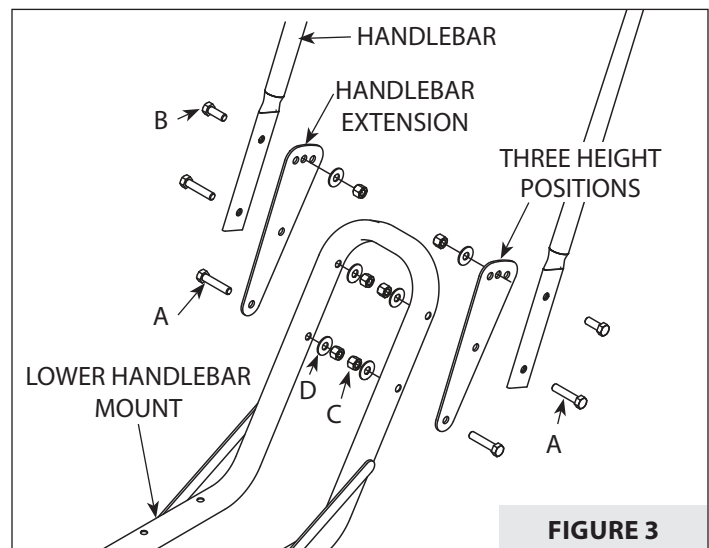

FIGURE 3
6. Locate the handlebar extensions and place them on the outside of the lower handlebar mount. Be sure to line up the handlebar extension pieces with the lower handlebar mount as shown. **SEE FIGURE 3.**
7. Insert one (A) M10 x 45 mm bolt into each of the lower holes in the side of the extension pieces. The bolts will pass through the lower hole of the lower handle bar mount. Place a (D) M10 flat washer and a (C) M10 nylock nut onto the end of each bolt and hand-tighten. **SEE FIGURE 3.**
8. Assemble the handlebar to the *outside* of the handlebar extension (side opposite the lower handlebar mount). Insert one (A) M10 x 45 mm bolt into each of the lower holes in the handlebar and through the *middle* hole on the handlebar extension. Place a (D) M10 flat washer and a (C) M10 nylock nut onto the end of each bolt and hand-tighten. **SEE FIGURE 3.**
9. Insert one (B) M10 x 25 mm bolt into each top hole on the handlebar and through one of the three holes on the handlebar extension according to desired handlebar height. Place a (D) M10 flat washer and a (C) M10 nylock nut onto the end of each bolt and hand-tighten. **SEE FIGURE 3.**